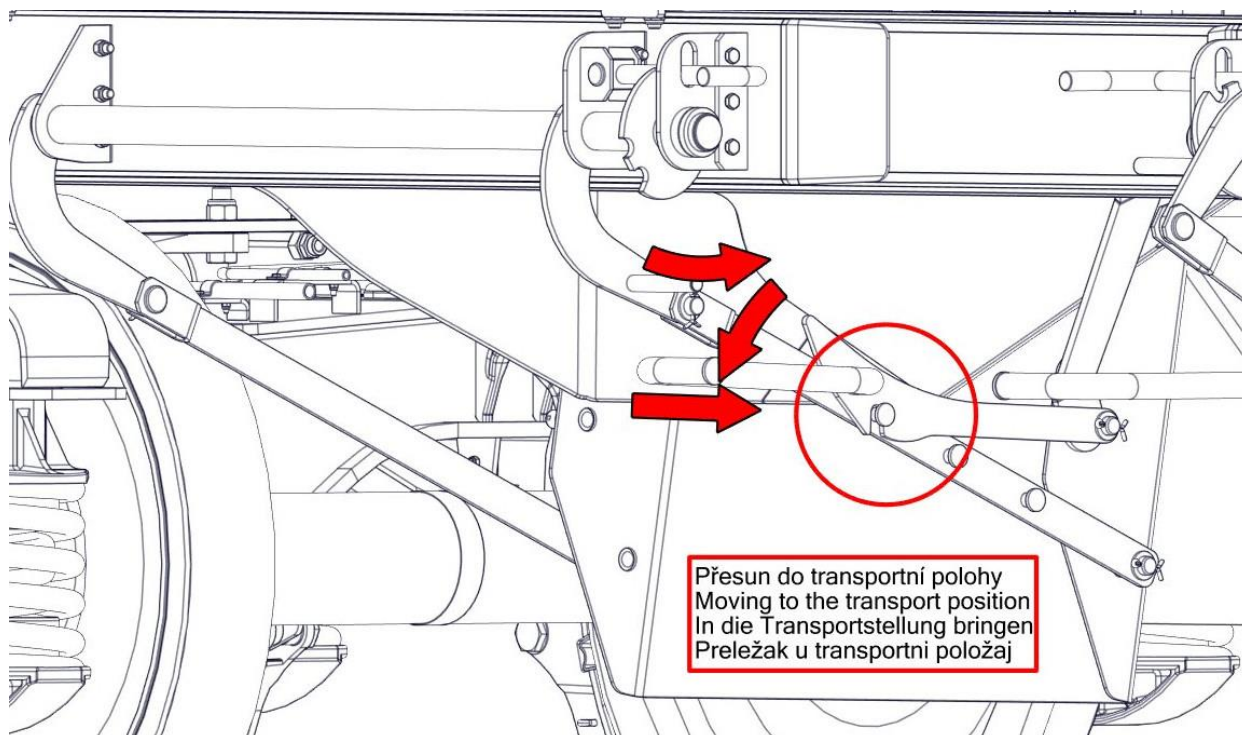
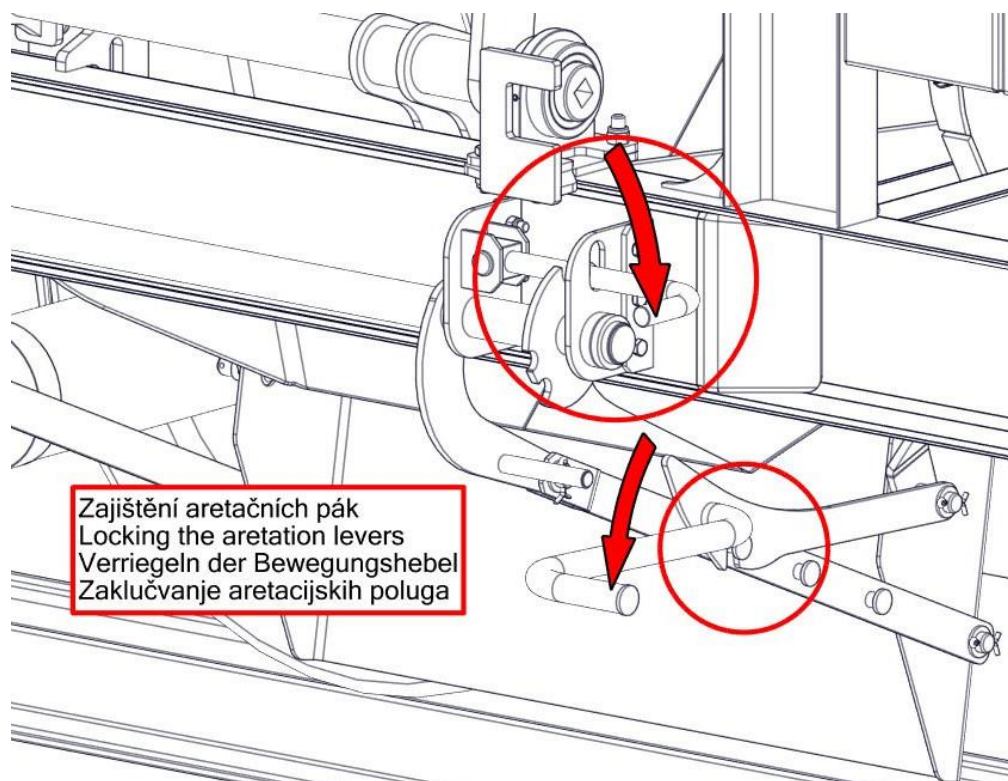
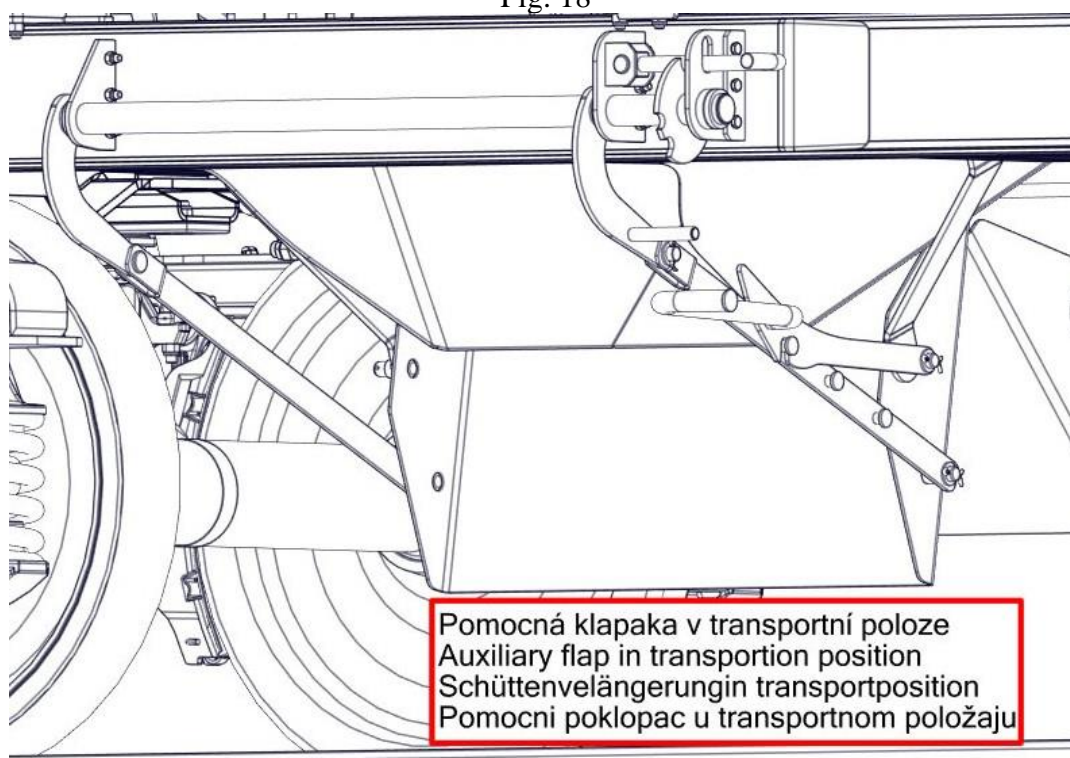

Fig. 17
Fig. 18
Fig. 19
- Retract the unloading chute using the handle in the position where the lever can be locked again – Fig. 17, Fig 18 and Fig 19.
- the movement of the additional chute is prevented by locking the lever in the locking slot – Fig. 18
- **The movement of the wagon is only permitted with retracted – Fig. 19 and locked additional unloading chutes – Fig. 18**